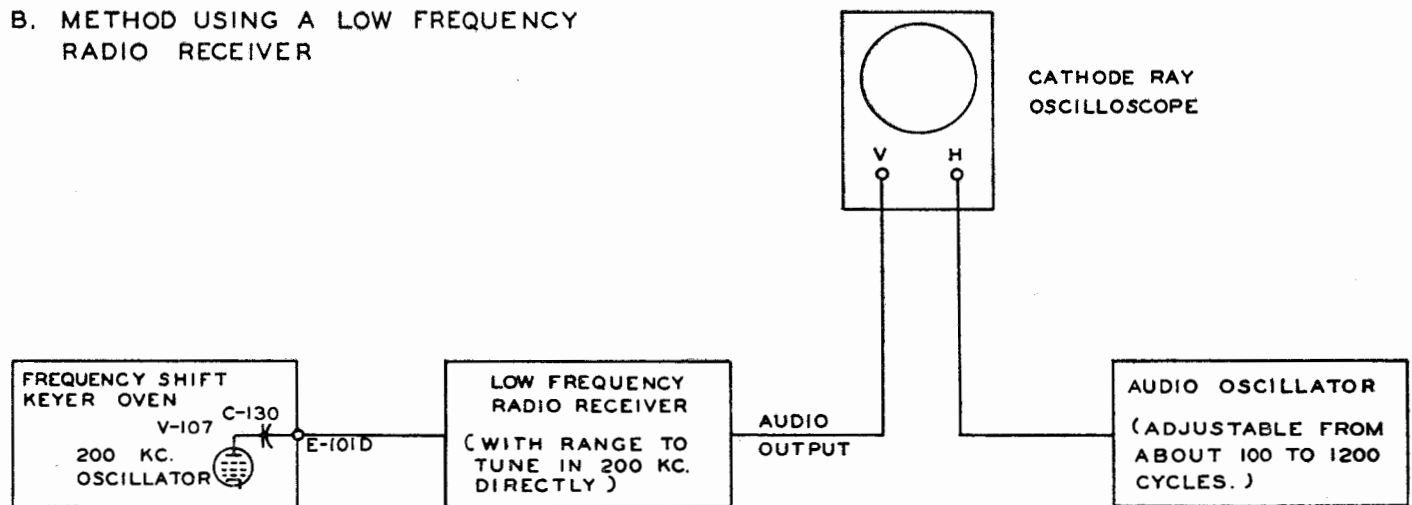

Figure 6-1. Method of Obtaining Frequency Shift Patterns
(2) FREQUENCY DEVIATION.
(a) Connect the test equipment as shown in figure 6-1 and with the equipment in the condition necessary to obtain the zero beat mentioned in (1) (e), set the TEST-OPERATE switch to Carrier position, the TRANSMITTER MULT FACTOR control to position 1, and turn the FREQ SHIFT control to maximum (dial reading is 100) shift. If the balanced keyer is in proper balance, the beat note in the headphones will remain at zero beat.